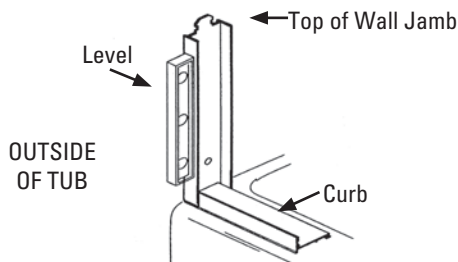

Figure 3
- B. Place the left Wall Jamb (#3L) against the left wall and slip the bottom of the Wall Jamb (#3L) over the Curb (#2). Use a Level, held against the side of the Wall Jamb (#3L), to align it vertically straight up and down as shown in Figure 3. Use a Pencil to mark the position of each of the three (3) pre-drilled holes in the left Wall Jamb (#3L). Set the Wall Jamb (#3L) aside for the moment.
- C. Using either a 1/8" Drill Bit (for a fiberglass enclosure) or a 3/16" Masonry Drill Bit (for tile) drill three (3) holes where you made the marks. If installing in a tiled enclosure, gently tap a Screw Anchor (#15) into each hole. **DO NOT use the Screw Anchors (#15) for a fiberglass enclosure.**